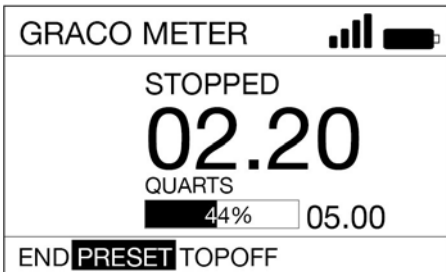

FIG. 35
4. Use the LEFT and RIGHT ARROWS to select PRESET (*H*). Press the ENTER button (FIG. 35).